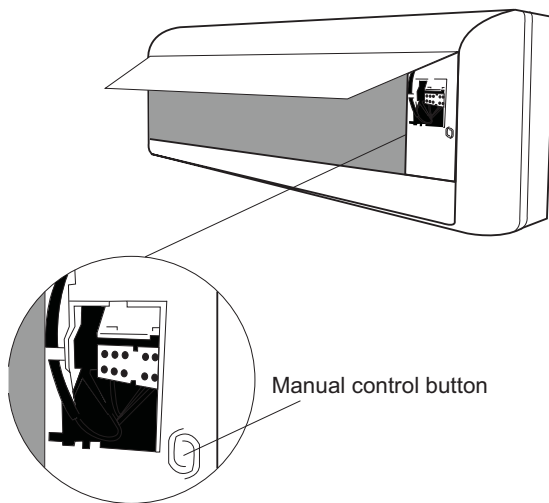

Fig.8.1
2. The **MANUAL CONTROL** button is located on the right-hand side of the unit. Press it 2 times to select the COOL function. See **Fig.8.1**.